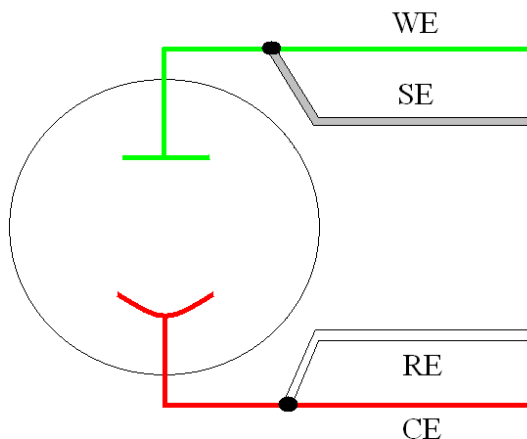

Figure 6. Two-Electrode Connection
- Green – Working (WE) electrode lead. This lead connects to the electrode of interest at which the desired reactions will occur. The current (I) is measured through the WE.
- Red – Counter (CE) electrode lead. This lead connects to the electrode opposite the WE and controls the power output of the PARSTAT 4000.
- Gray – Sense (SE) electrode lead. This usually connects to the working electrode (the combination often referred to as the working-sense), and is a component of the differential amplifier that measures/controls the voltage between itself and the reference electrode.
- White – Reference (RE) electrode lead. This connects to the reference electrode, a component of the differential amplifier that measures/controls the voltage between itself and the sense electrode.
a) Batteries, capacitors, resistors, fuel cells, and some sensors are generally connected using a two-terminal connection (Figure 6). The connectors for the cable leads are designed to allow easy interconnection of the working/sense and reference/counter leads. **Note: If your cell has low impedance (battery) and/or your experiment generates currents in excess of 100mA, do not connect the leads into one another for a two-terminal connection. Instead, connect the leads independent of one another to their proper terminal at the cell to prevent voltage offsets that can result from milliohms of contact resistance in a “piggy-back” connection as shown below.**